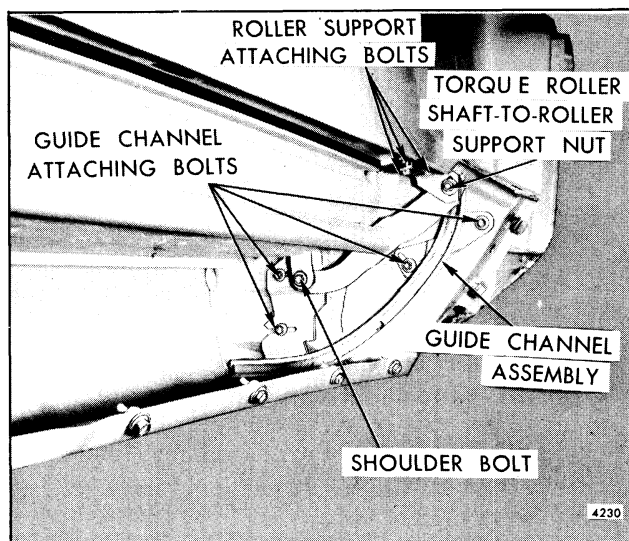

Fig. 7-102-Tail Gate Guide Channel Assembly - Right
2. Working through opening between body and rear bumper, remove synchronizing tube-to-guide channel link shoulder bolt (Fig. 7-102 or 7-103).
tail gate by torque roller supports. The left torque roller support is mounted to a fixed location on the bottom of the tail gate. The right torque roller support is adjustable laterally with respect to the gate in order to allow cross-body adjustment of the gate. Additionally, the right torque roller support-to-roller shaft attaching hole is elongated vertically to provide a cocked tail gate adjustment (Fig. 7-102).
2. Remove left roller support as a bench operation. Remove right roller support from body by removing roller shaft-to-support attaching nut (Fig. 7-102).
3. Scribe location of guide channels on body and remove rearward attaching bolts and loosen forward attaching bolts (Figs. 7-102 and 7-103).